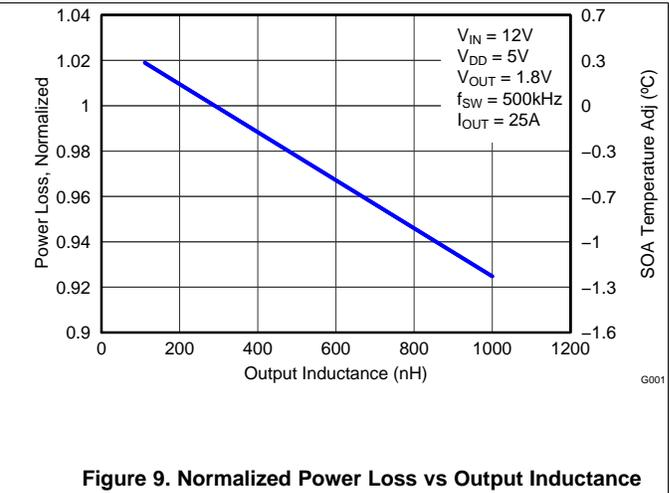

Figure 9. Normalized Power Loss vs Output Inductance
- Normalized Power Loss for output inductor \approx 1.01 (Figure 9)
- SOA adjustment for output inductor \approx 0.2°C (Figure 9)